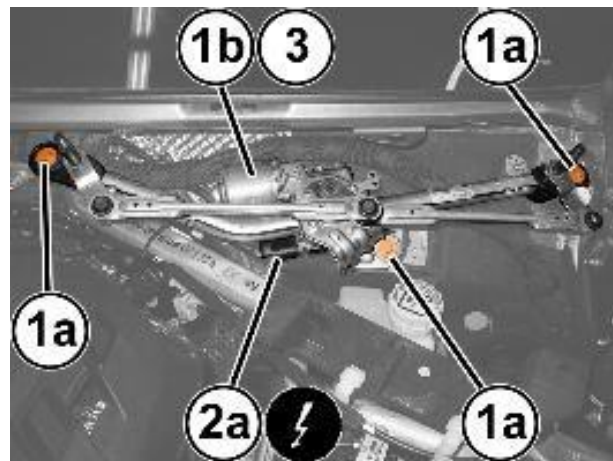

Figure 93 – Wiper Assembly
34. Remove the screws (1a) that secure the windshield wiper assembly (1b) (Figure 93).
35. Move the windshield wiper assembly (1b) slightly and disconnect the electrical connection (2a) from the windshield wiper motor (Figure 93).
36. Keep the windshield wiper assembly (3) (Figure 93).